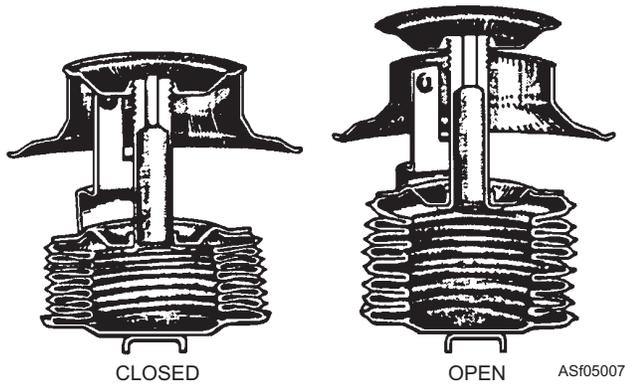

Figure 5-7.—Bellows thermostat.
**BELLOWS THERMOSTAT.**—The BELLOWS thermostat (fig. 5-7) consists of a round bellows that contains a small amount of a highly volatile liquid (such as ether). The liquid creates a pressure when heated. This pressure opens the valve as the engine warms up and allows the coolant to circulate. Should the bellows become punctured or ruptured, the thermostat will remain in the open position.